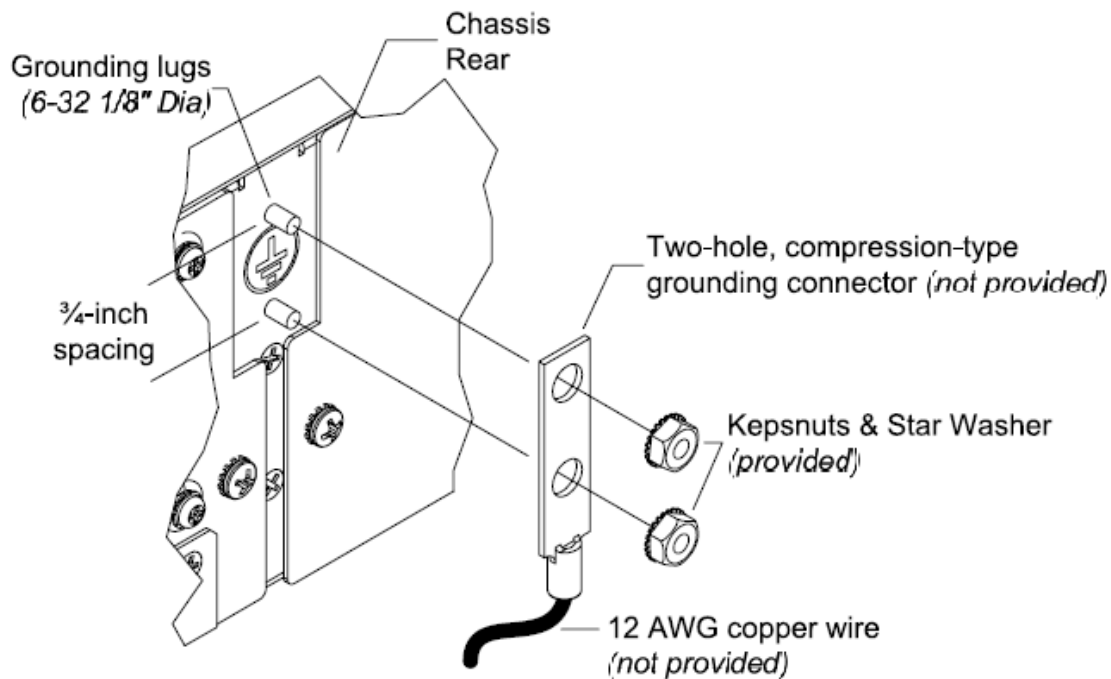

Figure 10: Grounding the Chassis
1. Obtain one (1) properly terminated, grounding conductor (12 AWG copper wire gauge or larger) with a two-hole, compression-type, grounding connector. Note the manufacturer's applied torque required for the connector.
2. Attach the grounding conductor to the chassis by placing the two-hole, compression-type connector onto the grounding lugs and then fasten with the appropriate lock-washers and lug nuts at the proper torque. See Figure 10 below.